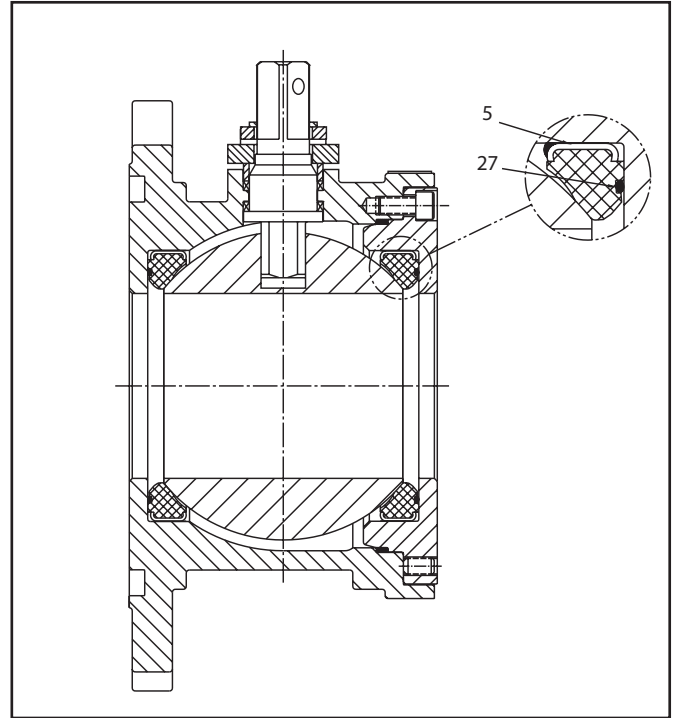

Figure 2.
3.4 Barrier Seat Installation (See Figure 2 & 3 - repair kit #RKR-3MB)
1. Place the O-ring (27) in the groove on the back of the seat (5). A small amount of lubricant applied to the O-ring will help hold the O-ring in the groove during assembly.
3. Slide the first seat (5) with O-ring (27) into the body (1) to below the stem opening and tilt it into place so that the proper face will come in contact with the ball (3) (See **Figure 2**).
5. Assemble o-ring (27) and seat (5). Place the seat assembly into the insert (2) in a manner that the sealing face will contact the ball (3) (**Figure 2**). Center and firmly clamp seat assembly into the body using the fixture in (**Figure 3**). Tack weld the seat into position per the instructions indicated in (**Figure 3**).